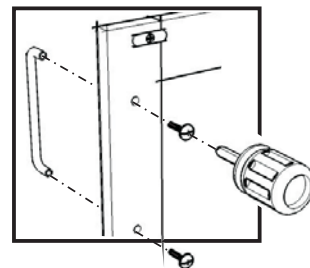

Figure 1
Assemble Front Piece (H1), (H2) and Front Rail (K). (See figure 1)
Attach Pull Handles to the Door (W) and (X) using Machine Screws. (See figure 1)
Using a philips screwdriver, insert 1" screws into the pre-drilled holes as shown, tighten half way. (See the figure 1)
Using a phillips screwdriver, insert 1" screws into the pre-drilled holes as shown, tighten half way. (See the figure 1)